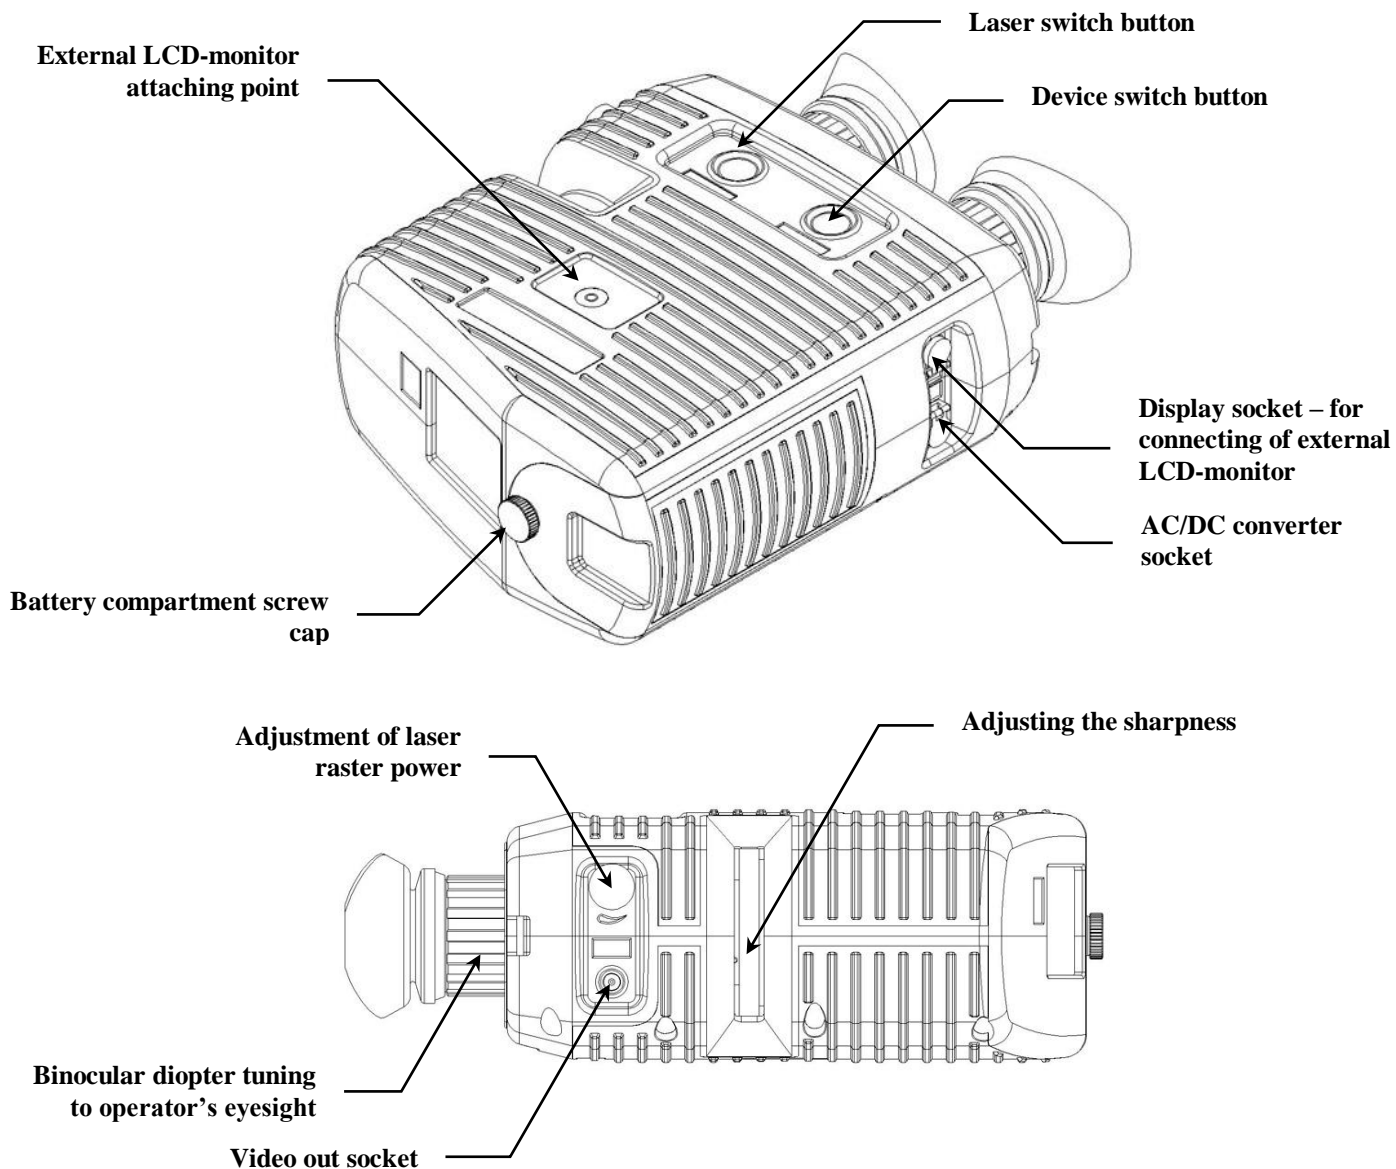

Fig. 3. «ANTISVID-2» controls
1.4.2. Appearance of the device is shown in Figure 3.